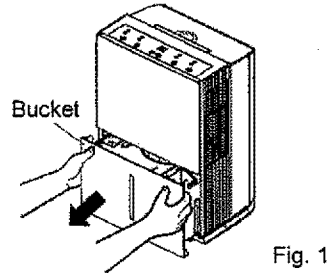

Fig. 1
1. Remove the bucket from the dehumidifier (Fig. 1)
1. Tilt the dehumidifier no more than 45° and forcibly insert the casters. Make sure the ring around the caster is flush against the bottom of the dehumidifier (Fig. 1)